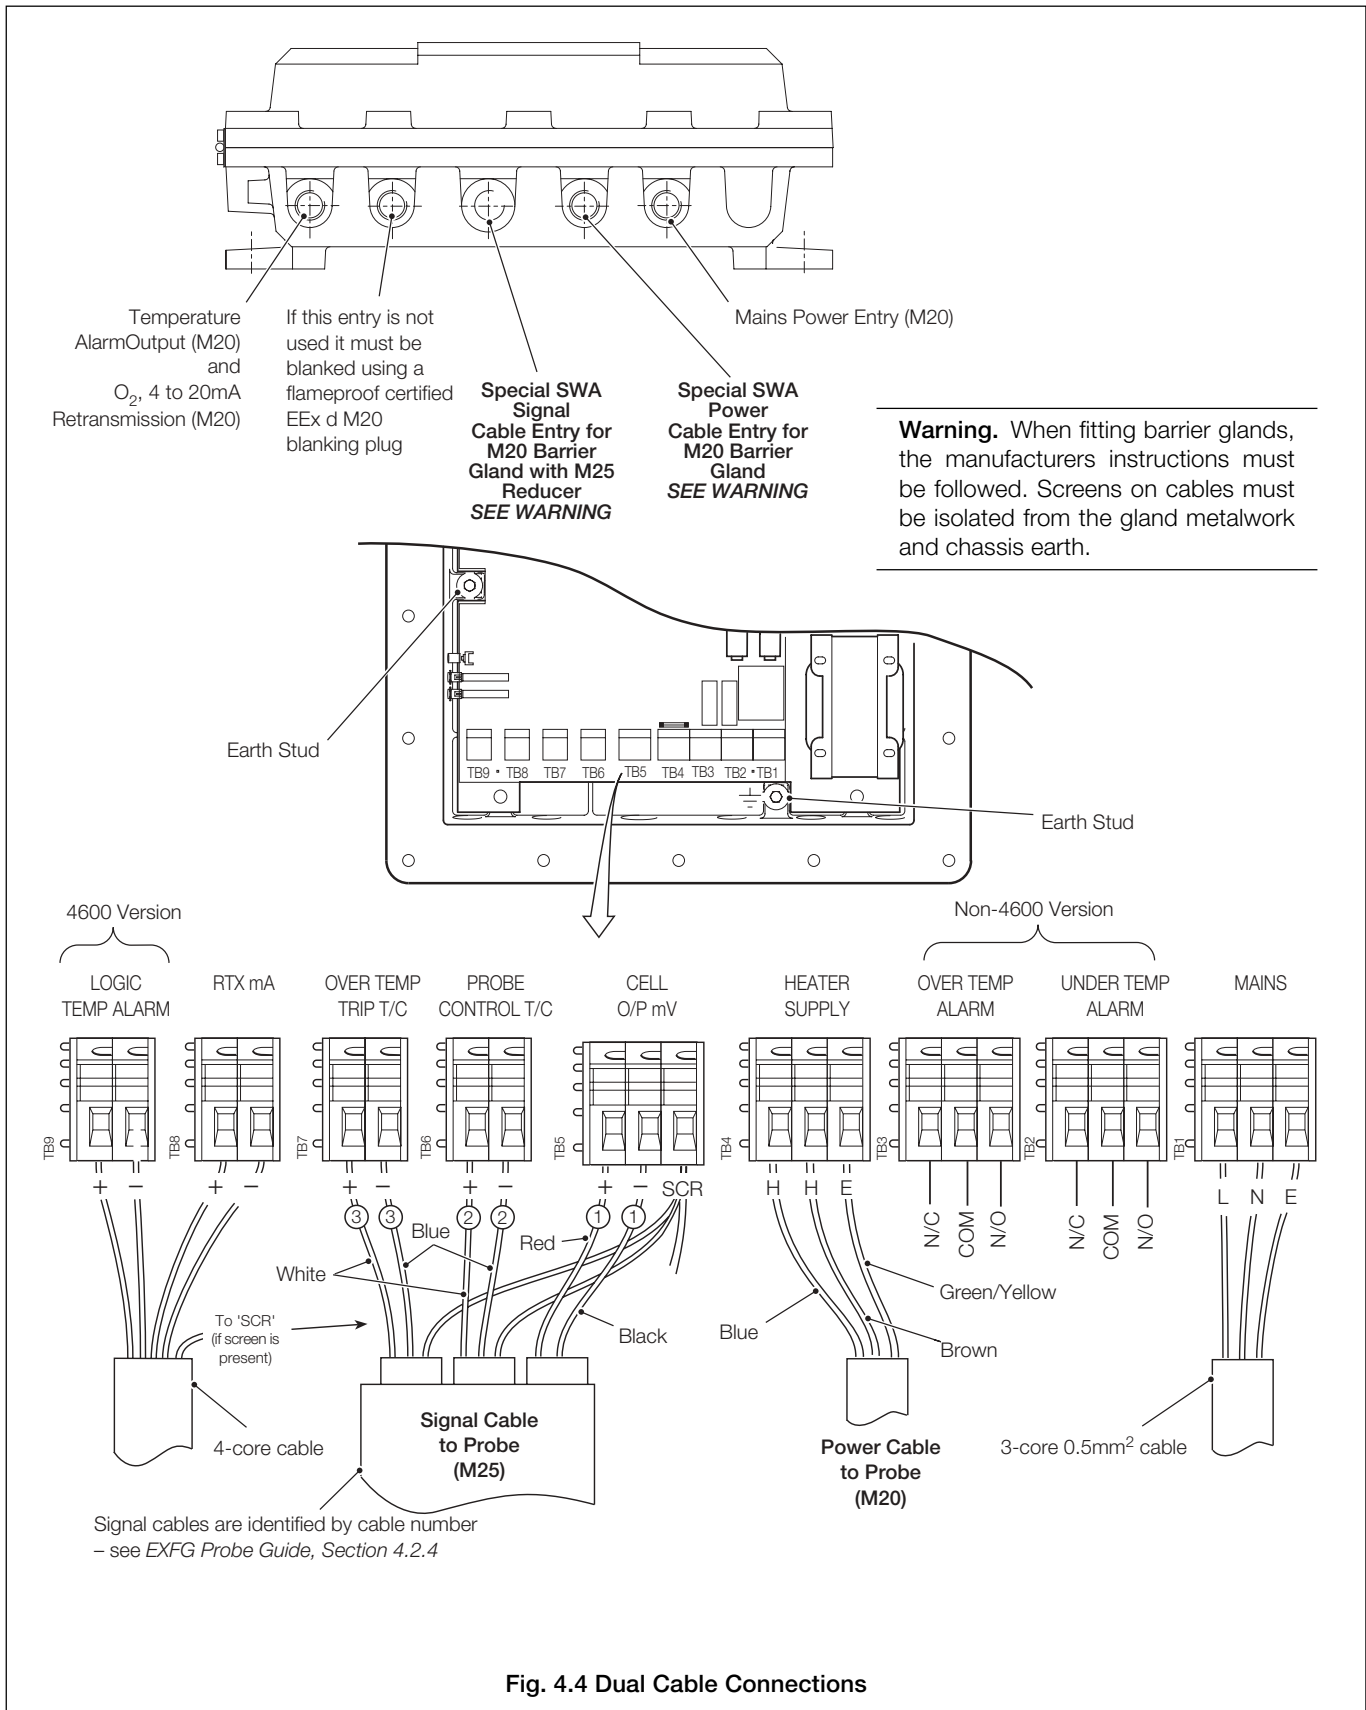

Fig. 4.4 Dual Cable Connections
4.3.3 Dual Cable Connections – Fig. 4.4